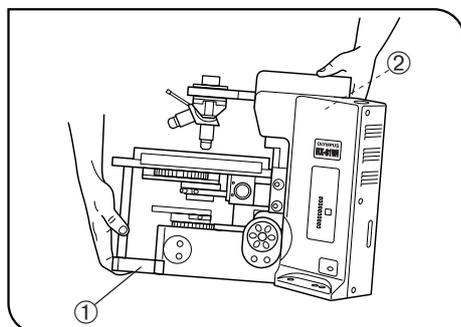

Fig. 1
4. When moving the microscope, disconnect the reflected light illuminator, observation tube and transmitted light lamp housing and carefully carry the microscope by the base (front edge) ① and the grasping part on the rear of the arm ② as shown in Fig. 1. (Weight: approx. 15 kg.)